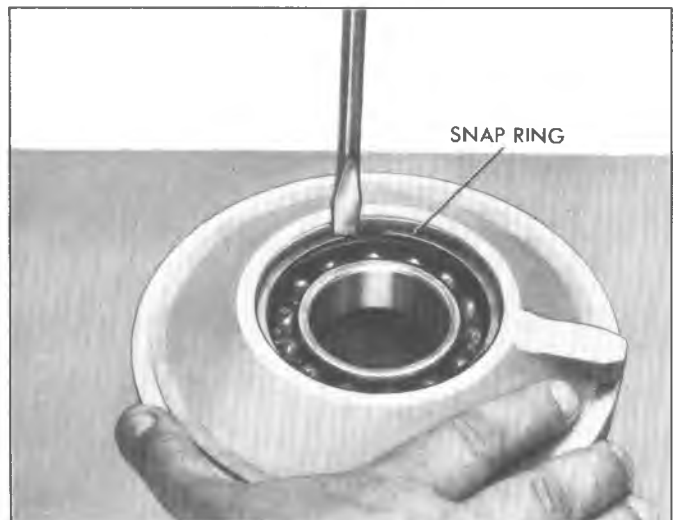

Fig. 15F—Removing Input Shaft Bearing-to-Retainer Snap Ring
4. Using a screw driver, pry behind open end of large snap ring retaining input bearing in bearing retainer (fig. 15F) and remove ring from retainer. Tap bearing from retainer.